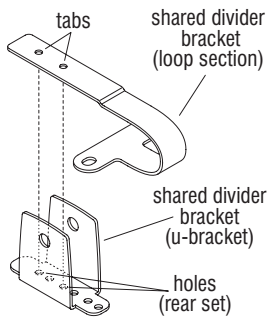

Figure 1
1. The first step in assembling privacy screens and dividers is to determine if the dividers are to be configured as left-end, right-end, or shared. Shared dividers must first be assembled by joining the two pieces of the front bracket as illustrated (Figure 1). The tabs of the loop section fit into one of four positions, or sets of holes in the U-bracket section. As illustrated, nest the loop section into the rear-most set of holes in the U-bracket section for this application (Figure 1).